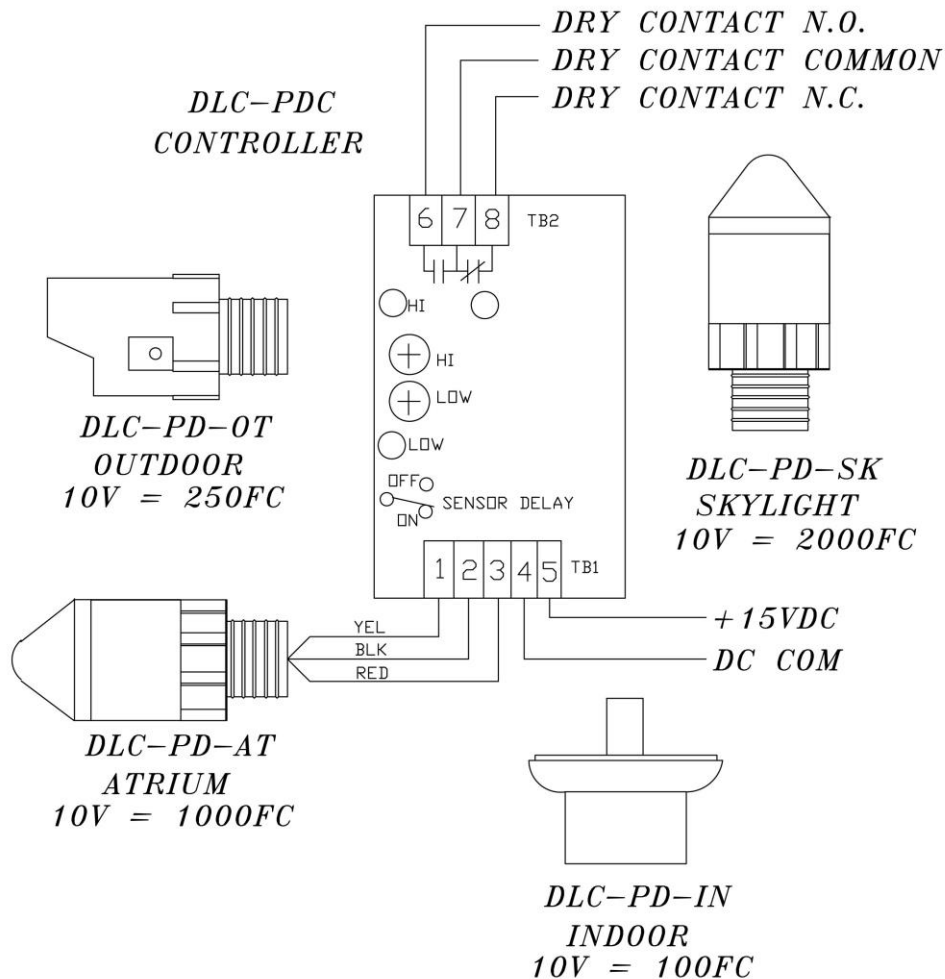

Figure 1: DLC-PDC with DLC-PD Sensor
The DLC-PDC 15VDC power should be connected to Terminal 5 at the bottom of the controller board; DC Common should be connected to Terminal 4 (see Figure 1).
The DLC-PDC Form C output has Common connected to Terminal 7 (LOAD RATING 3A MAX), the Normally Open contact is connected to Terminal 6, and the Normally Closed contact is connected to Terminal 8 (see Figure 1).
The DLC-PD sensor has three (3) wires. The Yellow wire should be connected to Terminal 1 at the bottom of the controller board. The Black wire should be connected to Terminal 2 and the Red wire should be connected to Terminal 3 (see Figure 1).